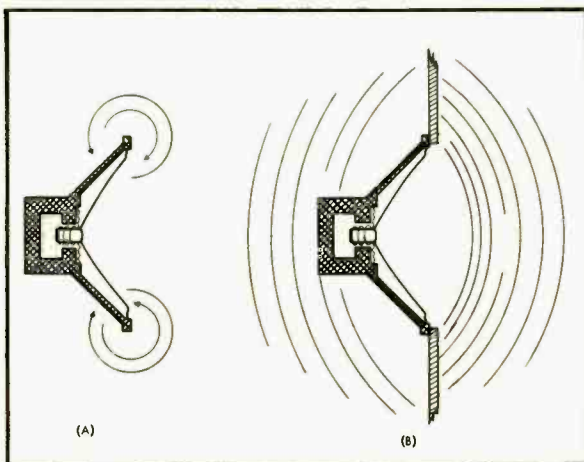

Fig. 10—1. (A) Interaction between front and back of unmounted speaker. (B) Baffle prevents front and back waves from cancelling.
The solution to the doublet problem is quite simple—it is to insert an external baffle between the air in front of the speaker and the air behind it. In practical terms we saw a hole in a piece of rigid material, and mount the loudspeaker against the hole in such a way that it faces its audience through the opening. In this way the circulatory currents of air around the speaker edges are stopped, as illustrated in (B) of Fig. 10—1, and the pressures and rarefactions produced in front of the speaker can only move outward.